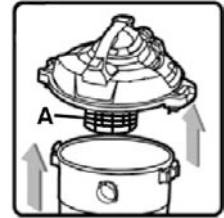

FIGURE 13
This section relates to wet vacuuming operations. This vacuum is fitted with an automatic suction shut-off float cup (A) Fig.13 which floats up when the liquid level increases in the tank, it then stops the suction action when the tank has reached its maximum capacity of liquid. Make sure the float cup is clean at all times.